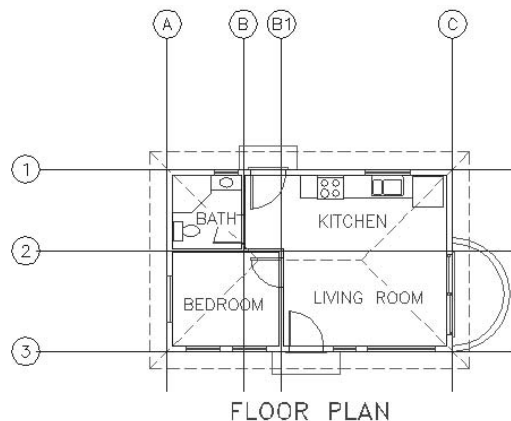

FIGURE B.7: The grid symbols after being updated
4. In the Enhanced Attribute Editor dialog box, repeat step 3 to change the D to C. The attributes have been updated (see Figure B.7).